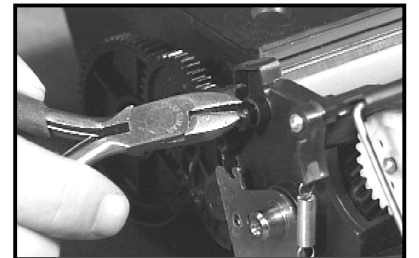

Figure 7
8. Remove the plastic locking pins located on both sides of the cartridge (fig. 7)